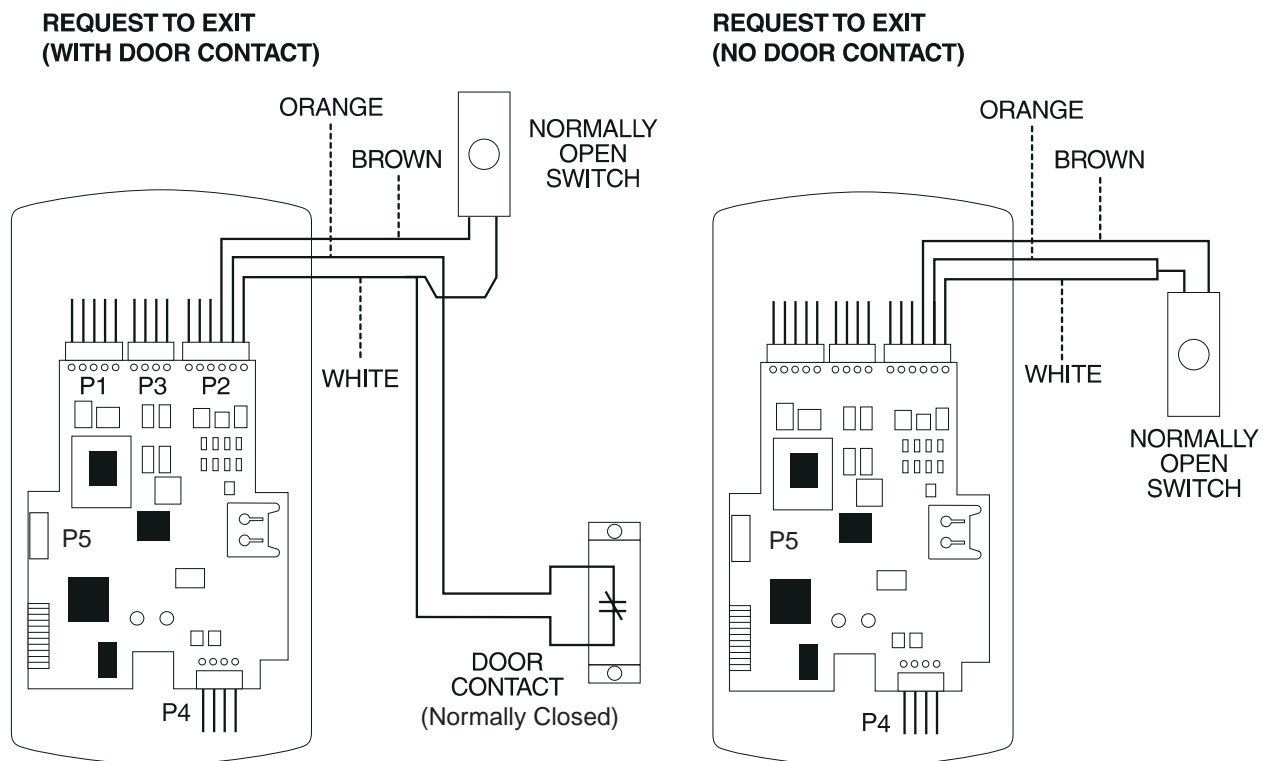

Figure 8 Wiring the REX Switch
Other REX devices can be used to include a remote button placed at a receptionist’s desk, a press-to-exit switch on the inside of a door, or a passive infrared detector, allowing free and convenient egress. The REX feature requires no programming; simply wire the unit as illustrated in Figure 8. To incorporate this feature, follow the steps below:
4. **If you do not wish to install the door contacts per Figure 8, twist the white wire and the orange wires together; this is mandatory. If this is not done, the REX input will not function.**